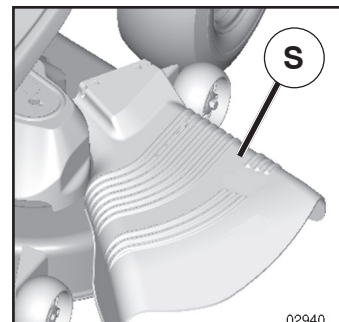

Fig. 10
**CAUTION: Do not operate the mower without either the entire grass catcher, on mowers so equipped, or the deflector shield (S) in place (See Fig. 10).**